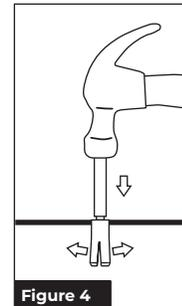

Figure 4
5. Set anchor by striking spreader tool with hammer until the sleeve of the anchor is fully expanded. (Figure 4)